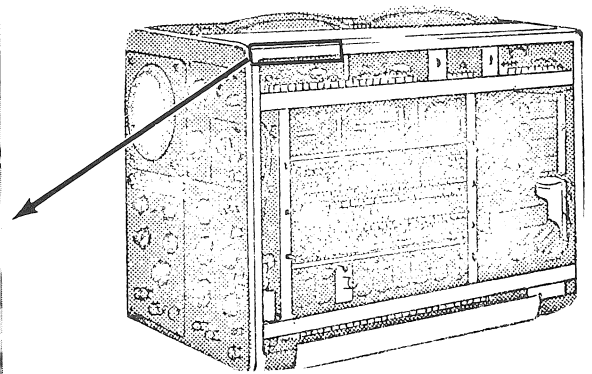

Figure 34
4. Adjust A INTERNAL DC LEVEL adjustment (R209-see Figure 34) for a triggered display while moving the SLOPE switch from + (plus) to - (minus).